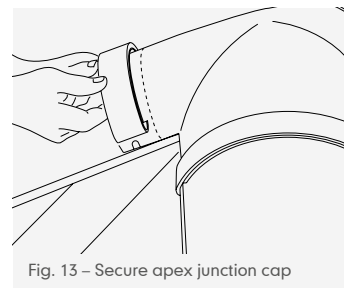

Fig. 13 – Secure apex junction cap
- 22 Secure each hip tile by clipping ends of PVCu hip/ridge union over circular beads of dry hip batten section. Fix any cut hip tiles adjacent to end hip tiles, which must be full tiles (Fig. 13).
- 26 Secure legs of apex junction cap with hip/ridge unions ensuring that location lugs align with slot at sides of cap, and are fully clipped to circular beads of dry hip and dry ridge batten sections (Fig. 13). The foam gasket on underside of hip/ridge union must be retained.